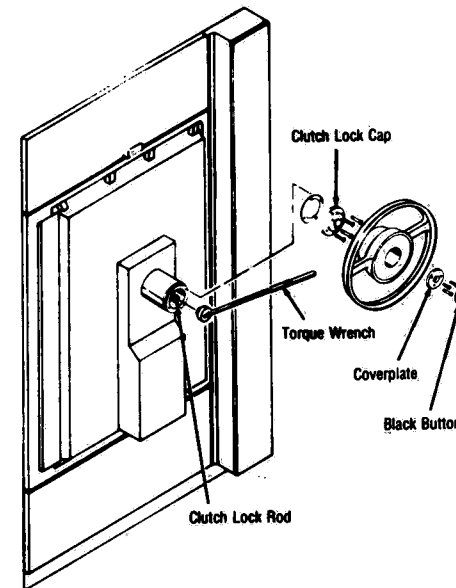

Figure 5-4. TORQUE LOCKING OF DOOR.
1. Using a torque wrench on the steam lock clutch rod, close and lock door to approximately 40 ft. lbs. torque. The DOOR UNLOCKED light on primary panel should go out. See Figure 5-4.